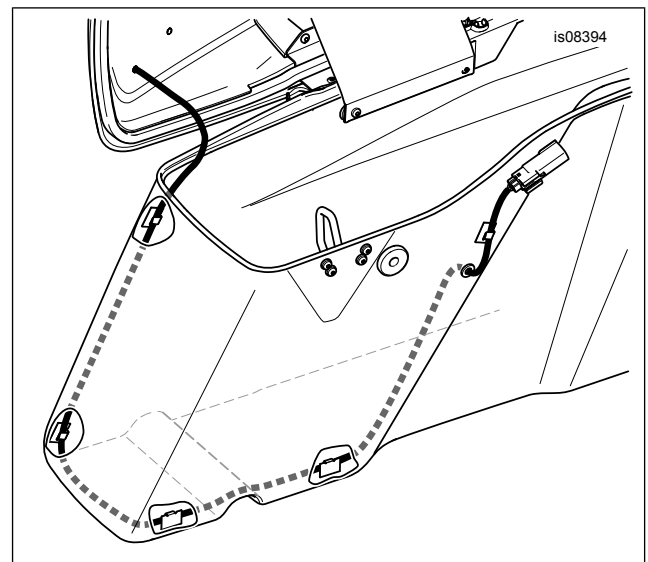

Figure 3. Spoiler Light Wire Routing Inside Saddlebag (Left Side Shown)
3. Install a grommet (7) from the kit into the newly drilled wiring hole.
5. Get four adhesive-backed wire clips (8) from the kit. See Figure 3. Use the clips to route the spoiler wiring: